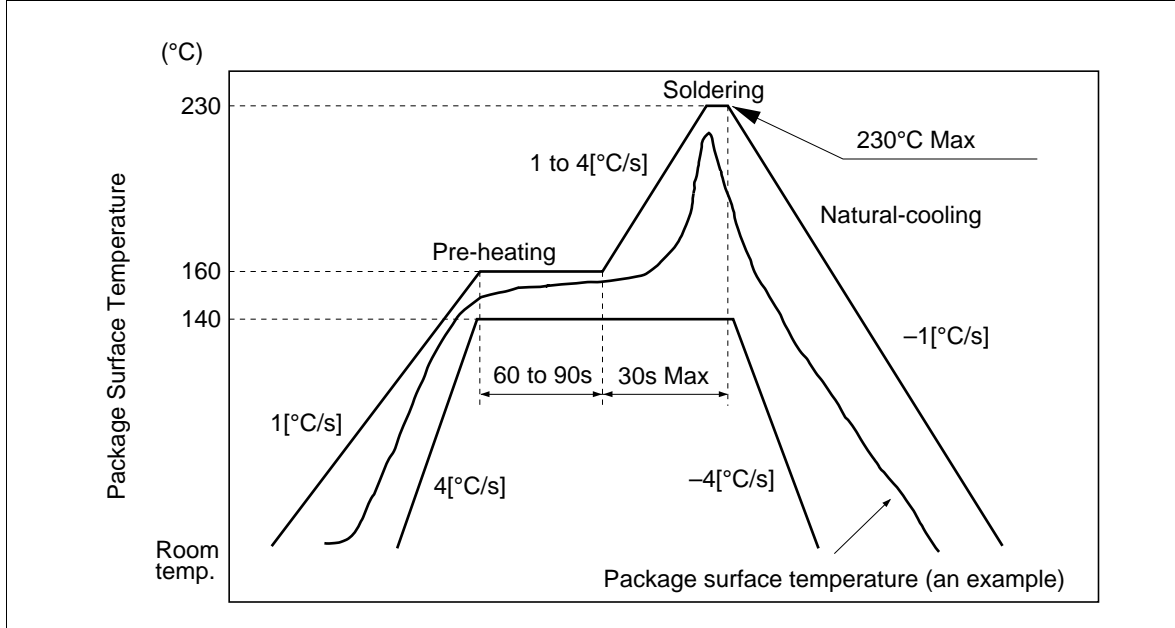

Figure 2 Recommended Reflow Profile
- To avoid the degradation of efficiency and output power, lead pins should not be floated from copper foil of PCB, and connected to right position of RF signal line. (refer to figure 2)
- Soldering temperature and time for I.R. Reflow should be the reflow profile shown in figure 2.